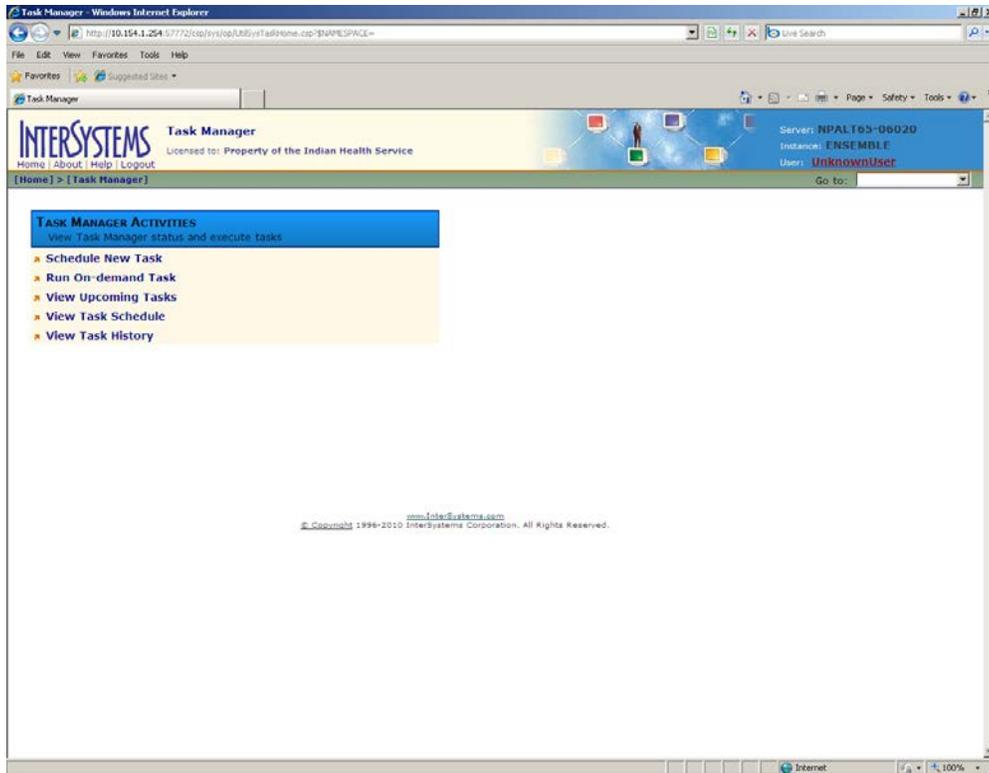

Figure 6-2: Task Manager page
1. On the **System Management Portal** page, click **Task Manager** to display the **Task Manager** page, as shown in Figure 6-2.